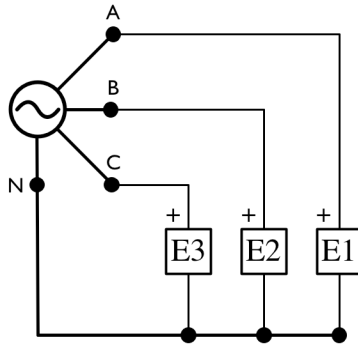

Figure 1.8: Phase Voltage Measurement
42. Turn off the power and reconnect voltmeters E1, E2, and E3 to simultaneously measure the PHASE voltages of the fixed voltage three-phase power supply, as shown in Figure 1.8.